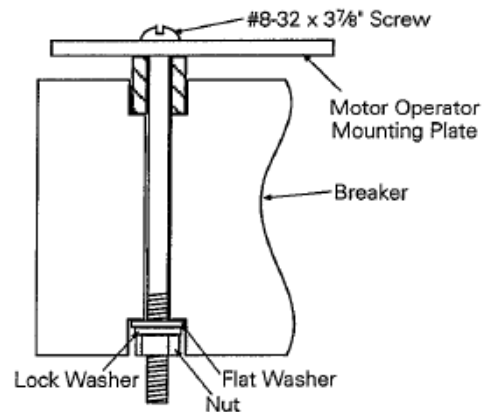
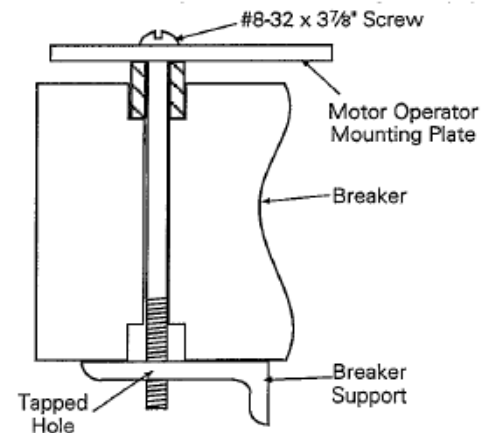

Figure 3. Motor Operator Accessory attachment to circuit breaker with breaker supported by bus structure.
Figure 4. Motor Operator Accessory attachment to circuit breaker with breaker supported directly.
1. Attach the Motor Operator Accessory to the circuit breaker with the four #8-32 x 3 7/8"-long screws, with spacers between the Motor Operator and the breaker, as shown in Figures 3 and 4.
2. If the circuit breaker is supported by the bus structure, fasten the Motor Operator to the breaker with the flat washer, lock washer, and nut, as shown in Figure 3. If the circuit breaker is supported from underneath, tighten the screws in the tapped holes in the supports, as shown in Figure 4.